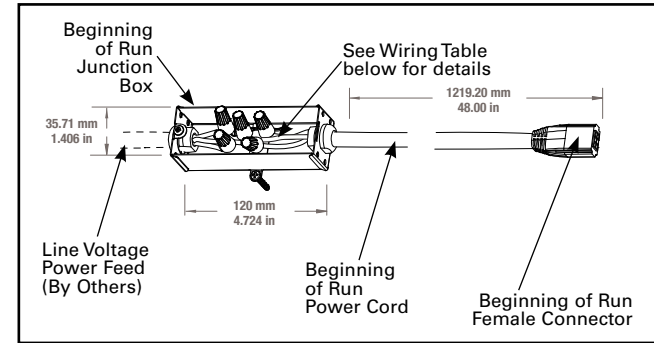

Figure 3
4. Prepare beginning of run junction box supplied with power cord for line voltage input by removing top screw. Open junction box wiring compartment. (See Figure 3) Feed line voltage power feed cable (supplied by others) through hole in junction box. Trim power feed to desired length. Using wiring nuts, connect power feed to beginning of run power cord wires according to Wiring Chart (on page 3). Green ground strap must be connected for safe operation. See Wiring Table (Below) for more details.